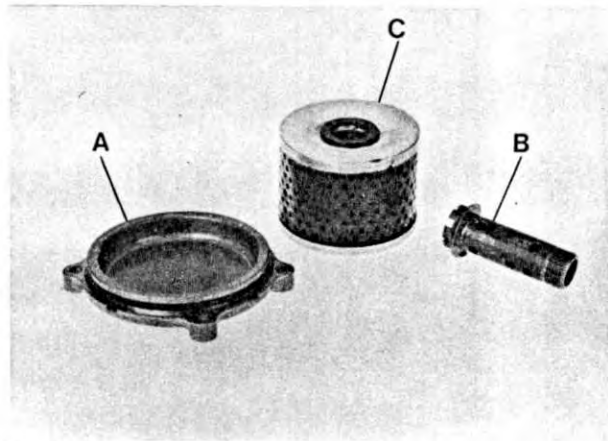

Fig. 12
Smontare il coperchio A, svitare il porta filtro con valvola di sicurezza incorporata B e sostituire la cartuccia C (fig. 12).
Every 6000 Km renew the oil filter element. Unscrew the four Allen screws that hold the plate A (right front side of the sump). Remove the plate, unscrew the bolt with safety by-pass valve (B) and replace the oil filter element (C) (fig. 12).